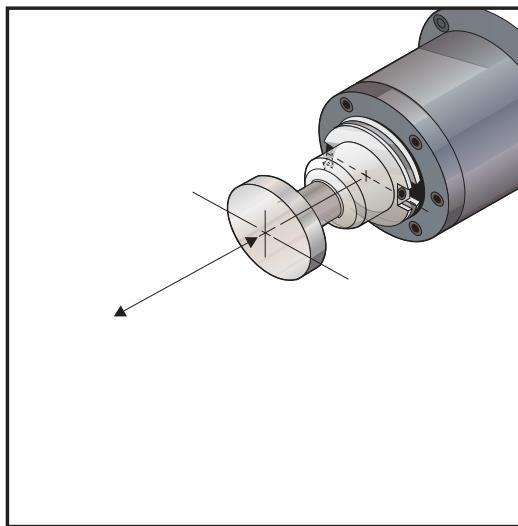

Figure 3.8-9.
**NOTE:** As an alignment aid, a 2.325" diameter disk mounted into a tool holder may be used (Refer to Figure 3.8-9). Handle jog as necessary to bring the disk in line with the center of the tool changer's fingers.
29. Handle Jog the spindle in the -Z direction (towards the front of the machine) and align the tool changer's fingers with the groove in the tool holder. Handle jog the spindle in the +X direction (towards the tool changer) and slowly move the tool holder into the extractor fingers. **STOP AND RE-ALIGN IF ANY MISALIGNMENT IS FOUND**. Continue to move the tool holder into the fingers until the drive notch on the side of the tool holder is approximately 0.050 in. from bottoming out on the carousel's alignment key. Refer to Figure 3.8-9.